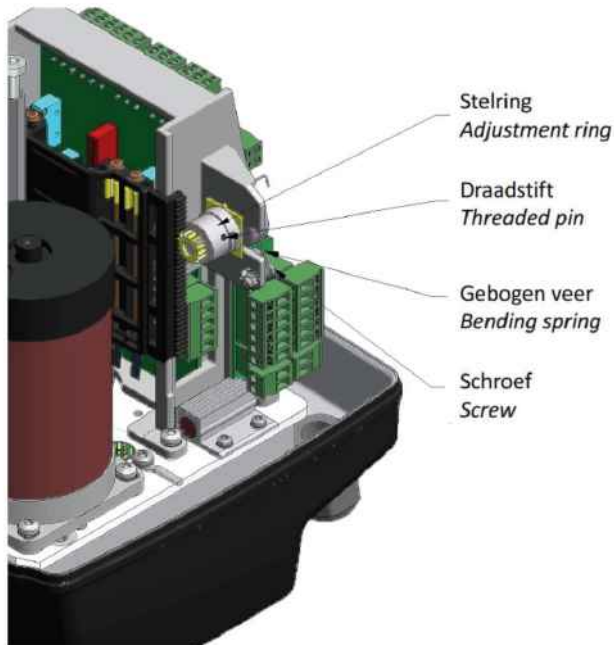

Fig 12
- *Loosen the grub screw to turn the adjusting ring on the potentiometer shaft (fig. 12). The resistance of the potentiometer can be adjusted to any value (default: 10% of the max. Ohm of the potentiometer with a complete closed valve).*